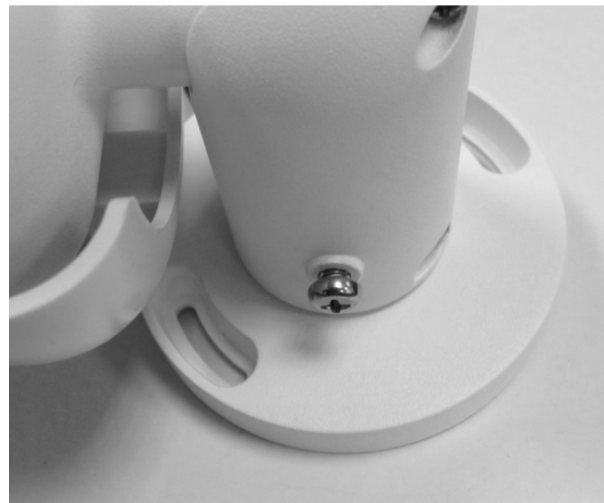

Figure 2
**NOTE!** If the camera joint is not tight enough for users, please fasten the supplied M5x10.5 standard screw into the hole as shown in Figure 2.